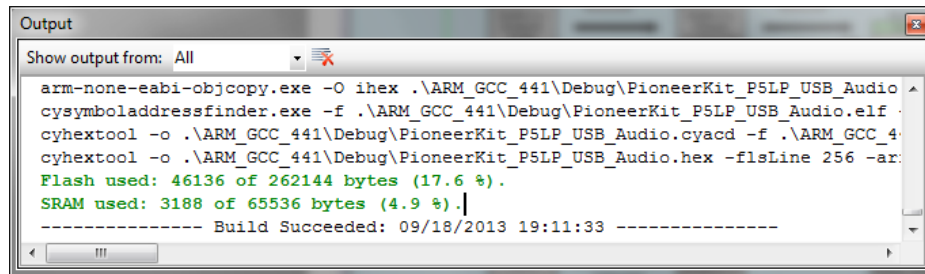

Figure 6: Output Window - PSoC Creator
- The Build output will be shown in the output window as shown in the Figure 6.